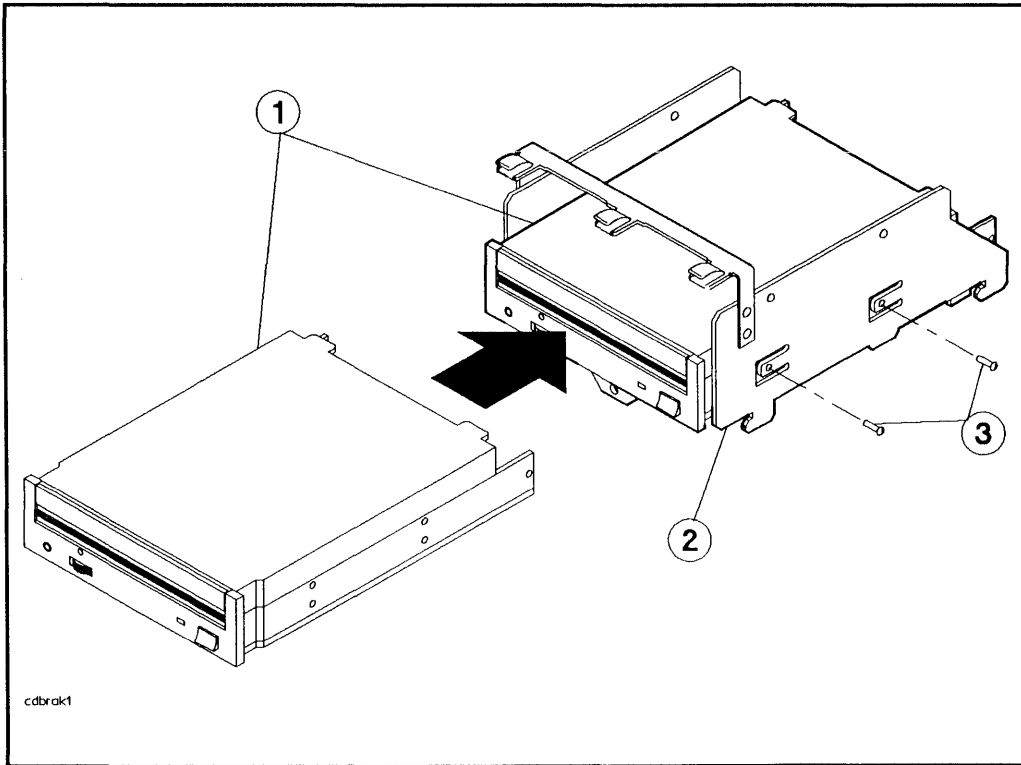

Figure 6-3. Installing a CD-ROM Drive into a Mounting Bracket
4. Secure the drive in the mounting bracket with the T10 bracket screws (see Figure 6-3).
3. Secure the drive in the mounting bracket with the T10 bracket screws (see Figure 6-3).